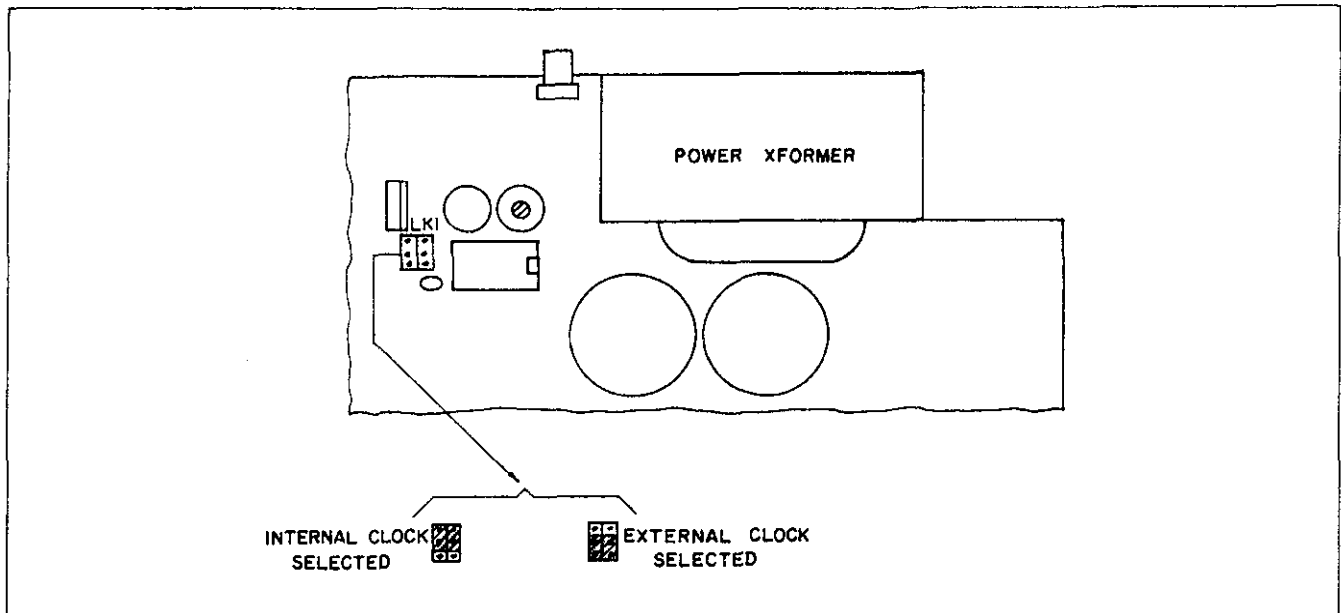

Figure 5-2. External/Internal Time Base Clock Selection.
B. For a Model 776, refer to Figure 5-2 for shorting link locations on the main board. LK1 (a and b), which is located at the rear of the instrument near the power transformer, selects the internal or external reference.